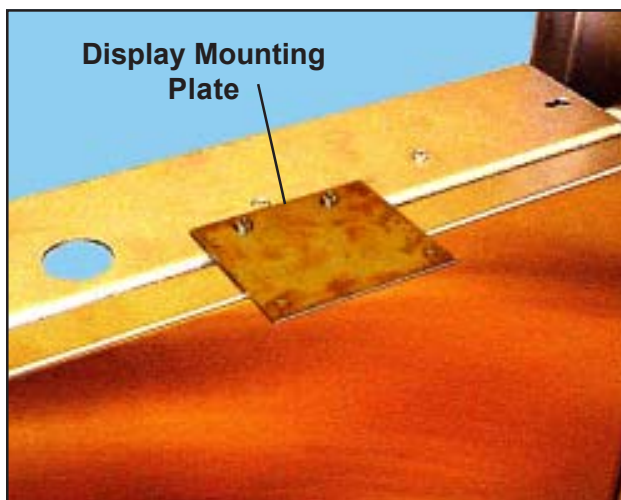

Figure 14. Mounting Plate on Sliding Carriage Cross Member
1. With a Phillips screwdriver and a 3/8-in. wrench, mount the display mounting plate to the top cross member of the sliding carriage with two 10-24 x .5-in. screws and locknuts (Figure 14).